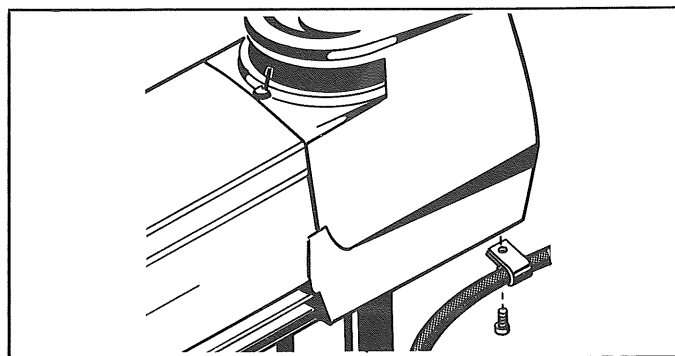

FIG. 10
6. Attach cord clamp to rear of arm with small phillips head screw. Fig. 10.